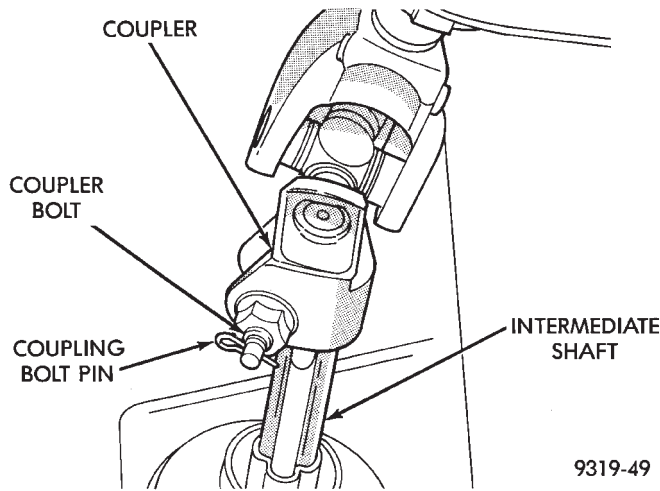

Fig. 12 Pinch Bolt And Retaining Pin
(17) Remove the retaining pin and pinch bolt from the coupler on the intermediate shaft (Fig. 12). Then separate the intermediate shaft coupler from the steering column shaft.
(4) Install the 4 bolts attaching the steering gear brackets and steering gear to the crossmember. **If equipped, be sure brake line routing clip is installed under left steering gear mounting bracket.** Tighten the 4 steering gear assembly to crossmember attaching bolts to a torque of 61 N·m (45 ft. lbs.).
(5) Install the intermediate shaft onto the steering column shaft. Install steering column coupler pinch bolt (Fig. 12) and tighten to a torque of 28 N·m (21 ft. lbs.). Install the pinch bolt nut retaining pin in pinch bolt (Fig. 12).